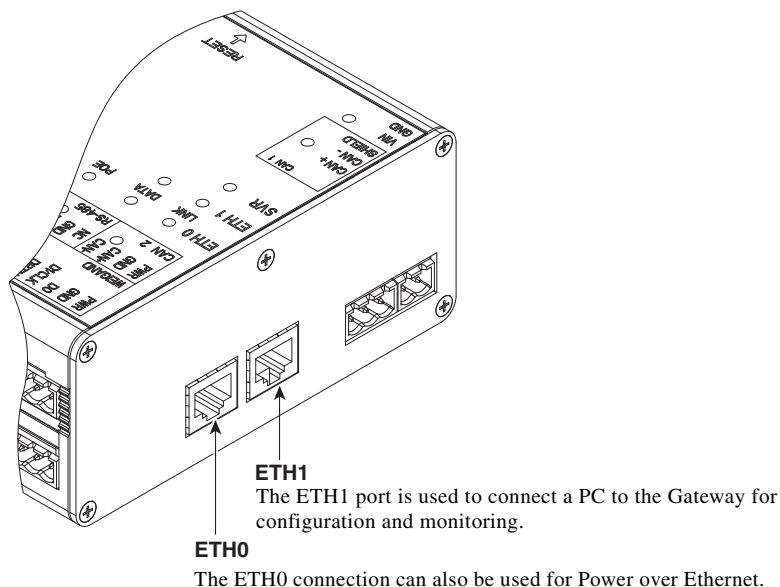

Figure 41: ETH 0 Ethernet Connection for the Cisco Physical Access Gateway
9. Connect the Gateway to the IP network by connecting an Ethernet cable to the ETH0 port, as shown in Figure 41.
1. Connect an Ethernet cable from a PC to the ETH1 interface on the gateway module as shown in Figure 41.